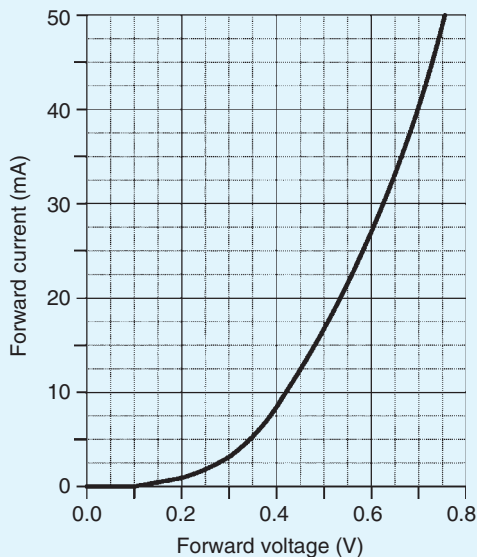

Figure 11.13
11. The graph shown in Fig. 11.13 was obtained during an experiment on a diode. (a) What type of diode is this? Give reasons. (b) Determine the forward current for a forward voltage of 0.5 V. (c) Determine the forward voltage for a forward current of 30 mA. (d) Determine the resistance of the diode when the forward voltage is 0.4 V. [ (a) Ge (b) 17 mA (c) 0.625 V (d) 50 Ω ]